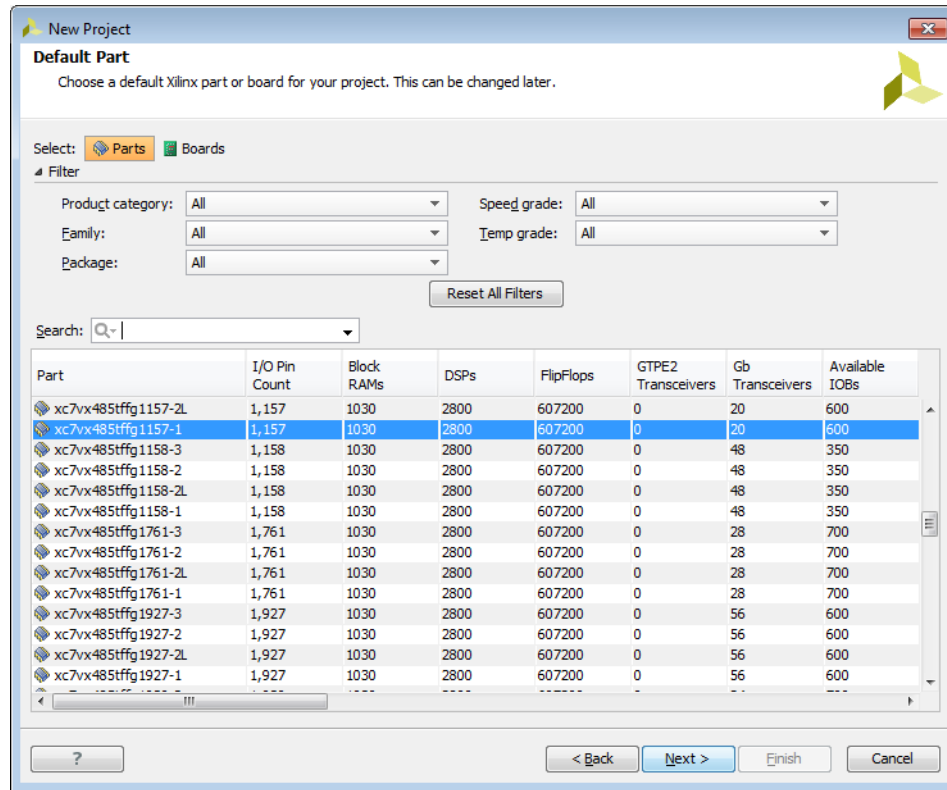

Figure 2-6: New Project Wizard—Default Part Page
6. In the Default Part page (Figure 2-6), select a Xilinx part or targeted design platform (TDP) board, and click **Next**:
5. In the Default Part page (Figure 2-6), select a Xilinx part or TDP board, and click **Next**:
4. In the Default Part page (Figure 2-6), select a Xilinx part or TDP board, and click **Next**: